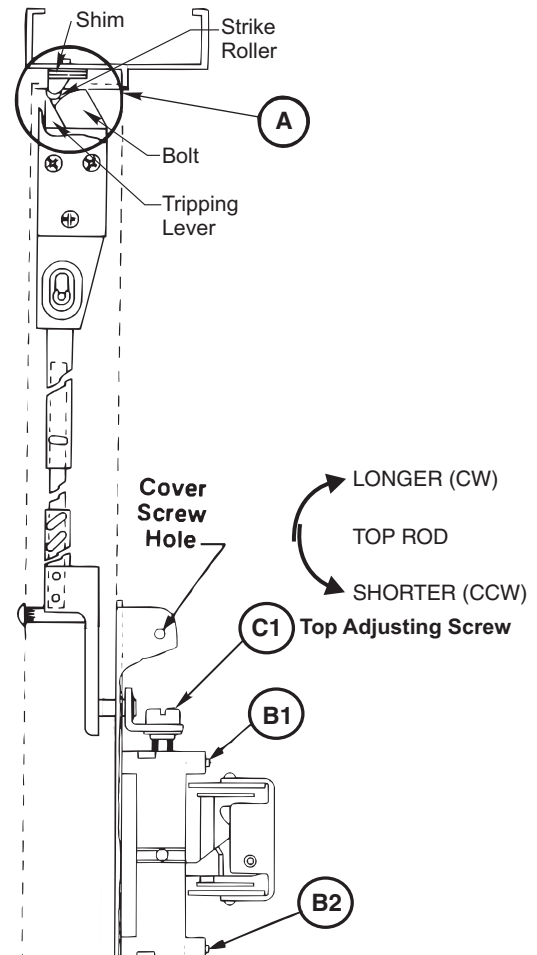

Figure 21
A. Rehang door plumb and in accordance with the opening. Set strike roller between tripping lever and bolt. **DO NOT PRELOAD BOLT.** Shim strike as needed. (Figure 21)
1. Use 3/32" (2.4) hex wrench to loosen set screws B1 and B2. (Figure 21)
2. Adjust top rod first with adjusting screw C1. (Figure 21) With device in dogged position (panic devices) or touchbar fully depressed (fire devices) adjust top rod so top latchbolt is flush and hold back feature is engaged. Lengthen top rod an additional 1/2 turn for proper latchbolt positioning.